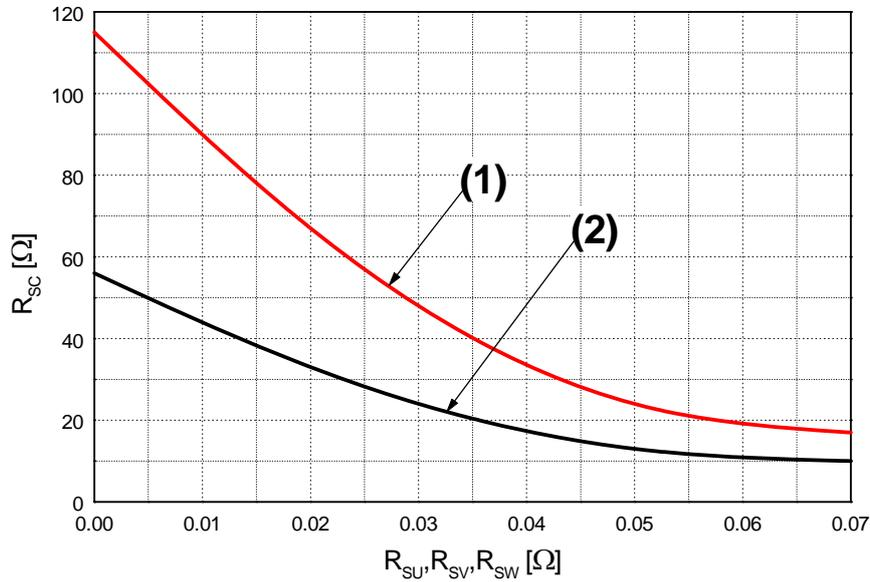

Figure 6. R_{SC} Variation by Change of Shunt Resistors (R_{SU}, R_{SV}, R_{SW}) for Short-Circuit Protection
- Short-circuit protection is functioning only at the low-sides. It would be recommended that the value of the external sensing resistor (R_{SC}) should be selected around 56 Ω in order to make the SC trip-level of about 30A at the shunt resistors (R_{SU}, R_{SV}, R_{SW}) of 0 Ω. For the detailed information about the relationship between the external sensing resistor (R_{SC}) and the shunt resistors (R_{SU}, R_{SV}, R_{SW}), please see Figure 6.